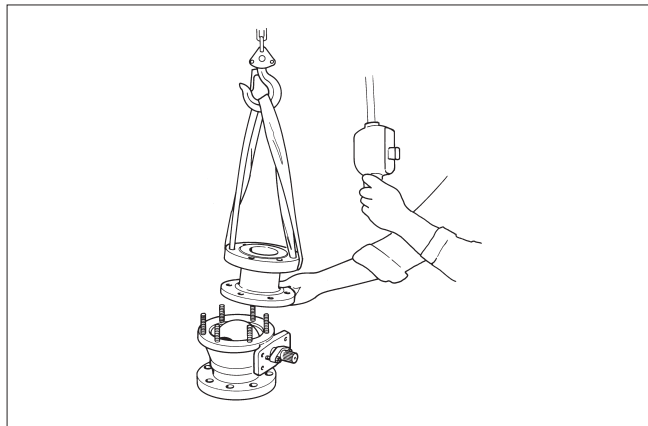

Fig. 15 Lifting a body cap
- Place the valve so that the body's hexagon nuts (16) / Body cap (2) point upwards. Use a surface that does not damage the flanges.
- Loosen the gland nuts (18).
- Loosen the body's hexagon nuts (16).
- Remove the body cap (2) from the valve. Should the ball seat (7) not stay on the body cap, keep it from falling while you are lifting it out by putting your fingers under the body cap (small sizes) or in the flow bore (large sizes). Watch out for your hand! Lower the body cap onto the surface in a standing position, i.e. onto its flange (see Figure 15).